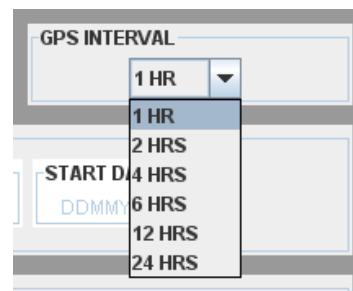

Figure 7.6 - GPS Interval Selection
- Then select the GPS interval from the dropdown box provided (see Figure 7.6 - GPS Interval Selection). The GPS interval is the frequency that the unit will turn on the GPS module to get clock errors and record the current system information. Once again this parameter is a trade-off to data resolution and the overall efficiency of the unit. For shorter periods you will get a more accurate reading of the clock error and more frequent system information. However the GPS module consumes a large percentage of the overall device efficiency and longer update intervals can once again extend battery life. It is however recommended that the GPS interval be left at 1 hour unless extended run times are absolutely necessary.